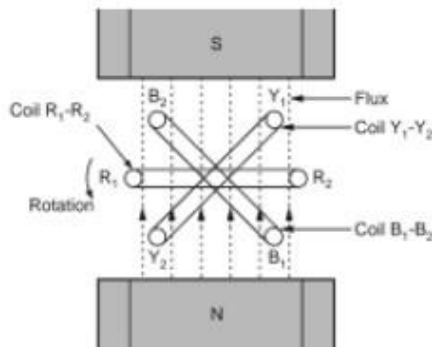

Fig. 1.3.1 Generation of 3 phase
- Consider armature of alternator divided into three groups as shown in the Fig. 1.3.1. The coils are named as  $R_1-R_2$ ,  $Y_1-Y_2$  and  $B_1-B_2$  and mounted on same shaft.